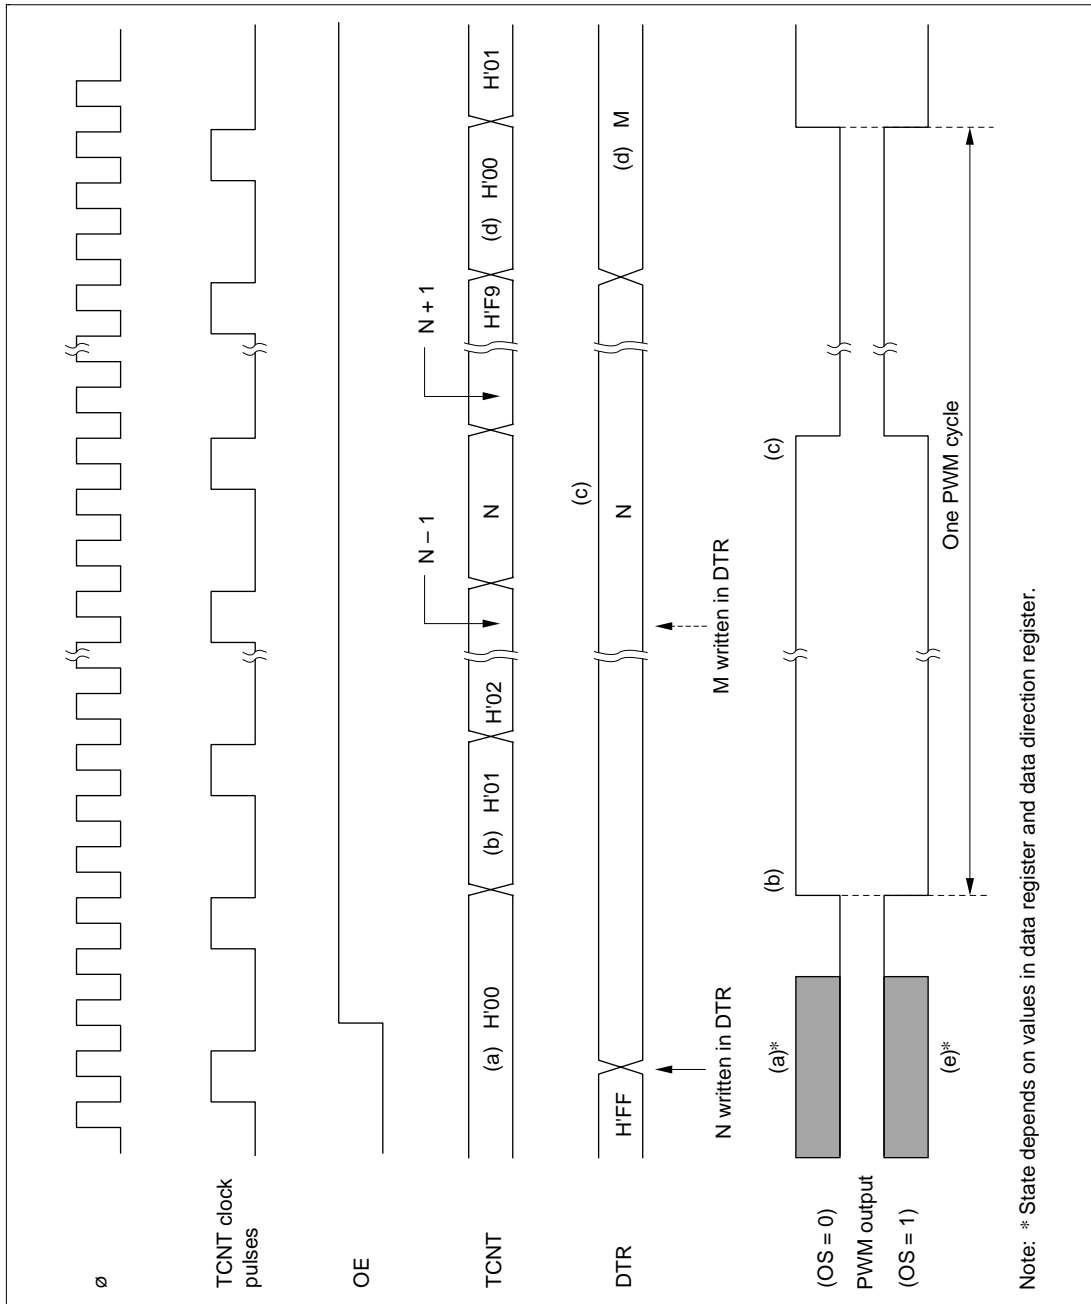

Figure 10.3 PWM Timing
Figure 10.3 is a timing chart of the PWM operation.
1. When (OE = 0)—(a) in Figure 10.3
The timer count is held at H'00 and PWM output is inhibited. [Pin 4₆ (for PW0) or pin 4₇ (for PW1) is used for port 4 input/output, and its state depends on the corresponding port 4 data register and data direction register.] Any value (such as N in figure 10.3) written in the DTR becomes valid immediately.
- a. The timer counter begins incrementing. The PWM output goes high when TCNT changes from H'00 to H'01, unless DTR = H'00. [(b) in figure 10.3]
- b. When the count passes the DTR value, the PWM output goes low. [(c) in figure 10.3]
- c. If the DTR value is changed (by writing the data “M” in figure 10.3), the new value becomes valid after the timer count changes from HF9 to H'00. [(d) in figure 10.3]
Inverted Output (OS = 1)—(e) in Figure 10.3: The operation is the same except that high and low are reversed in the PWM output. [(e) in figure 10.3]